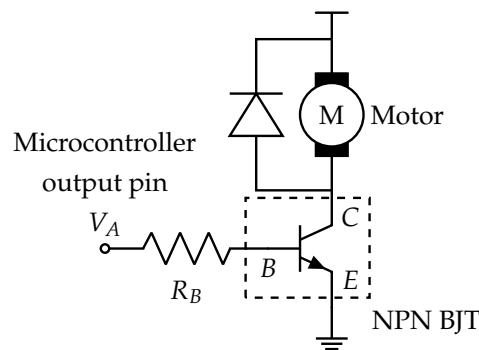

Figure 1: Motor Controller Circuit
In the lab project, you will be designing SIXT33N, a mischievous little robot who *might* just do what you want — if you design it correctly. In phases 1 and 2, you will build the **legs** of SIXT33N: you will be designing SIXT33N's wheels and developing a linear model for the car system. The wheels will be driven by two 9-Volt DC motors whose driver control circuit is shown in Figure 1.
The BJT in Figure 1 is switching between **ON** and **OFF** modes when V_A is HIGH and LOW respectively. The model for both ON and OFF states are shown in Figure 3. When the BJT turns on, V_{BE} can be modeled as a fixed voltage source with voltage value V_{BE0} . In ON mode, there is a **Current Controlled Current Source** modeled between "Collector (C)" and "Emitter (E)", i.e., current at the "Collector (C)" is an amplified version of current at the "Base (B)" (notice that positive I_B has to flow into the "Base (B)" for the relation $I_C = \beta_F I_B$ to hold). β_F is called the **Common-Emitter Current Gain**.
- (a) Draw the equivalent motor controller circuit when the BJT is ON by substituting in the BJT model from Fig. 3a into Fig. 1. Express I_B and I_C for $V_A = V_{A,HIGH}$ as a function of R_B .
When V_A is HIGH, the voltage across the resistor in Figure 1 is $V_{A,HIGH} - V_{BE0}$. This voltage is what determines the the current flowing into the "Base(B)" (I_B) and current flowing into the "Collector (C)" (I_C).
- (b) Draw the equivalent motor controller circuit when the BJT is OFF by substituting in the BJT model from Fig. 3b into Fig. 1. Express I_B and I_C for $V_A = V_{A,LOW}$ as a function of R_B .